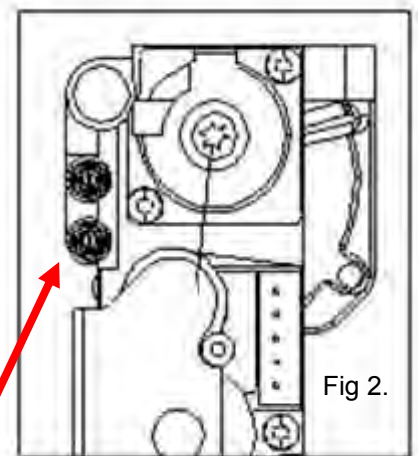

Fig 2.
- Open the filling tap **R** (fig. 2);
- Use the pressure gauge **M** (fig. 2) to check that the system pressure reaches the middle of the green section (14.5 psi = 1 bar) and that the code H2O does NOT appear on the control panel display (see 2.7 section 'Control Panel');
- turn the system drain tap RS (see fig. 2) and use a container to collect the water that runs out;
- Check gas pressure at gas valve inlet pressure tap. SEE Fig 2. Set gas pressure to proper level at the regulator (Refer to section 2.1 Technical Data). Gas pressure adjustments must be performed while the appliance is in "Flue Test Function" mode (maximum firing rate). Allow the boiler to fire in the heat mode. Press and hold the "S" button until "07" flashes on the screen. Do NOT make any adjustments to the gas valve itself.